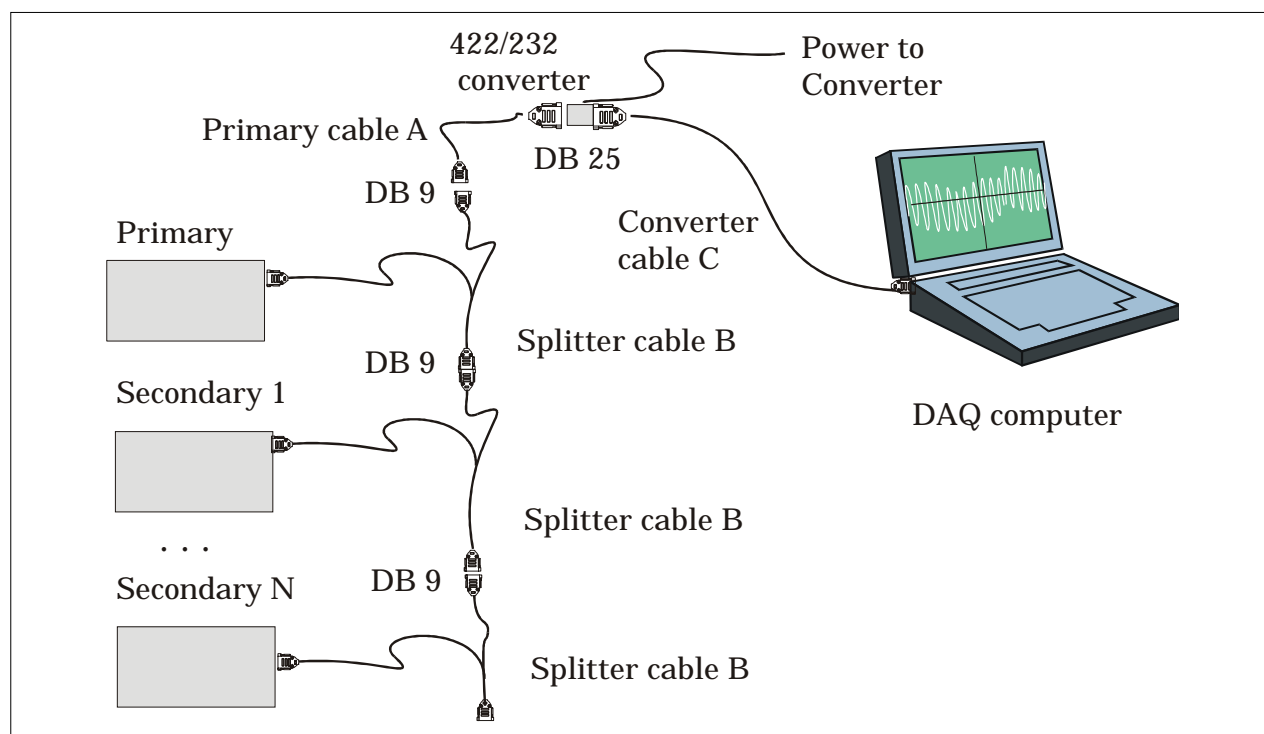

Figure 21 – RS485 Overview
- Multiple systems are “daisy-chained” together as shown in Figure 21.